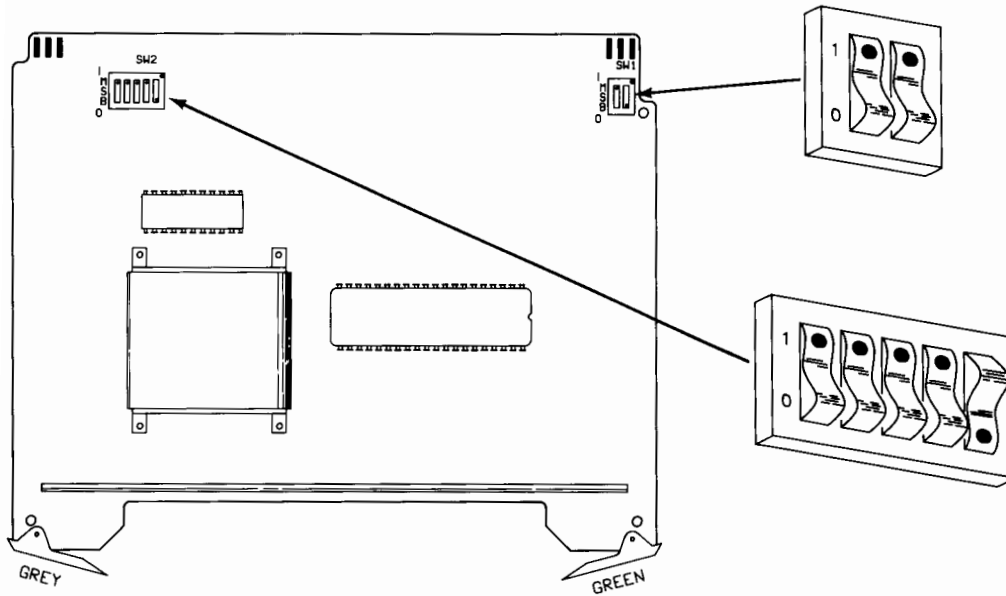

Figure 6-2. Bubble Memory Card Switches
- a. Find the set of five select code switches, labeled SW2 on the card, by referring to Figure 6-2.
- a. Find the interrupt level switches, labeled SW1 on the card, by referring to Figure 6-2.
- If this is the first (or only) Bubble Memory Card you are installing, set the interrupt level to 6 as shown in Figure 6-2.